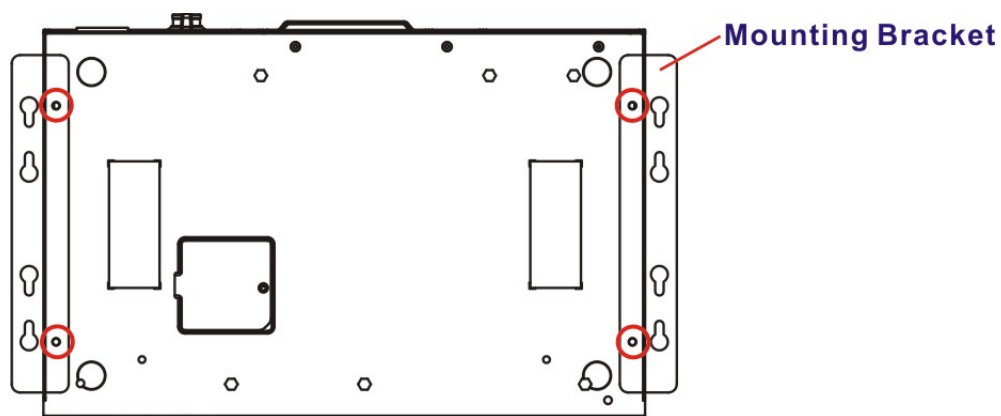

Figure 3-12: Mounting Bracket Retention Screws
Step 3: Secure the brackets to the system by inserting two retention screws (M4*6) into each bracket (**Figure 3-12**).